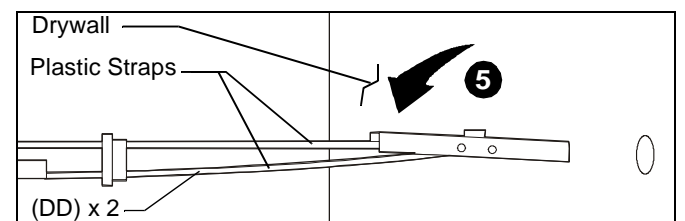

Figure 14
- Hold metal channel on drywall anchor (DD) flat alongside plastic straps and slide channel through hole. (See Figure 14)